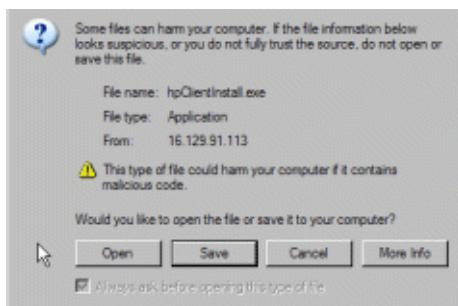

Figure 102 File Download dialog box
The File Download dialog box appears (Figure 102).
6. Click **Download**. The File Download dialog box appears (Figure 102).